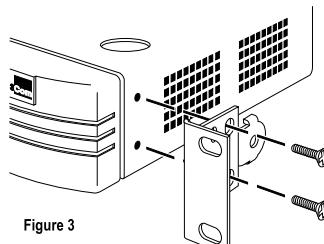

Figure 3
- Locate a mounting bracket over the mounting holes on one side of the unit, as shown in figure 3 below.